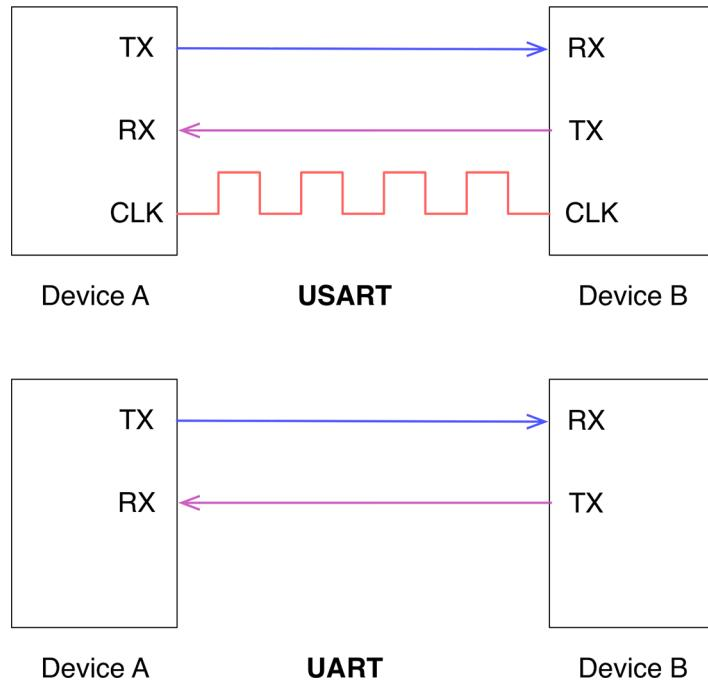

Figure 8.3: The signaling difference between a USART and a UART
A *Universal Synchronous Receiver/Transmitter* interface is a device able to transmit data word serially using two I/Os, one acting as transmitter (TX) and one as receiver (RX), plus one additional I/O as one clock line, while a *Universal Asynchronous Receiver/Transmitter* uses only two RX/TX I/Os (see **Figure 8.3**). Traditionally we refer to the first interface with the term **USART** and to the second one with the term **UART**.